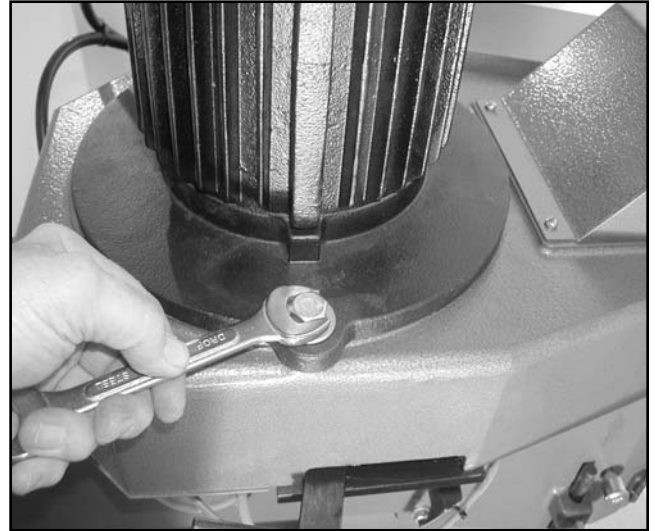

Figure 13. Loosening motor mount bolts.
1. Loosen the bolts around the motor base as shown in **Figure 13**.
1. Increase or decrease lowering speed, as desired, by turning the knurled knob as shown in **Figure 13**.